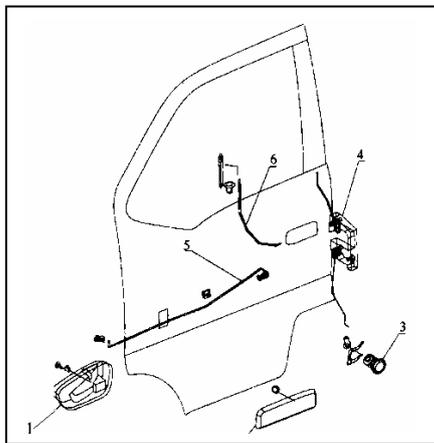

Fig. 19-17
- 1. Front door lock as shown in Fig. 19-17: